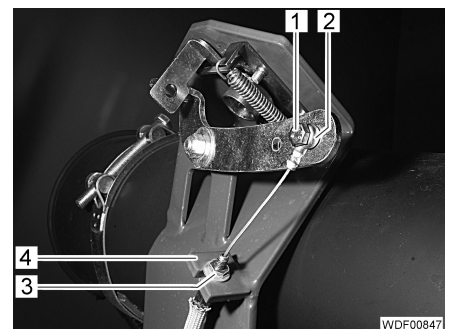

Fig. 3 Locking mechanism of engine hood
- Unscrew the screw (Fig. 3,1).